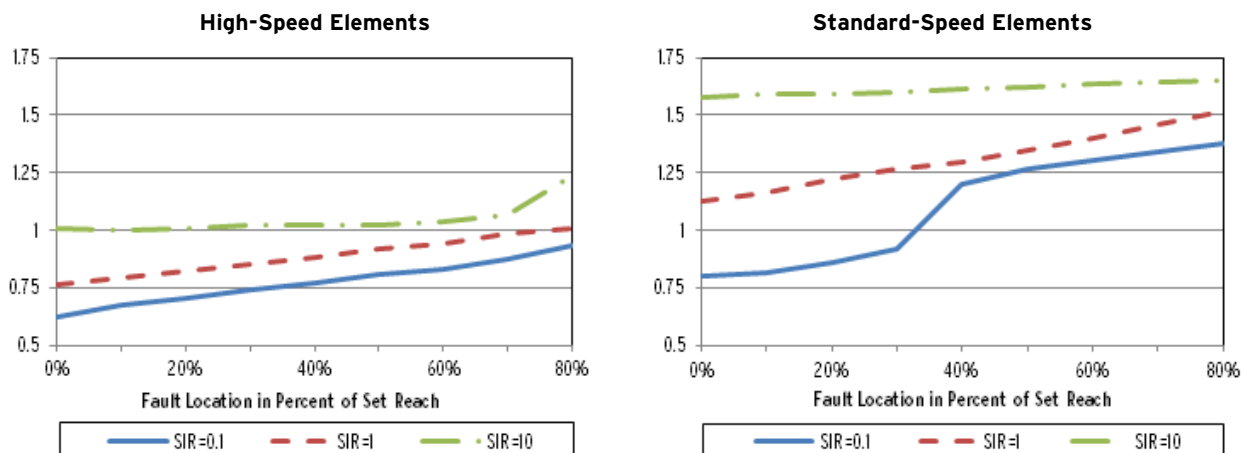
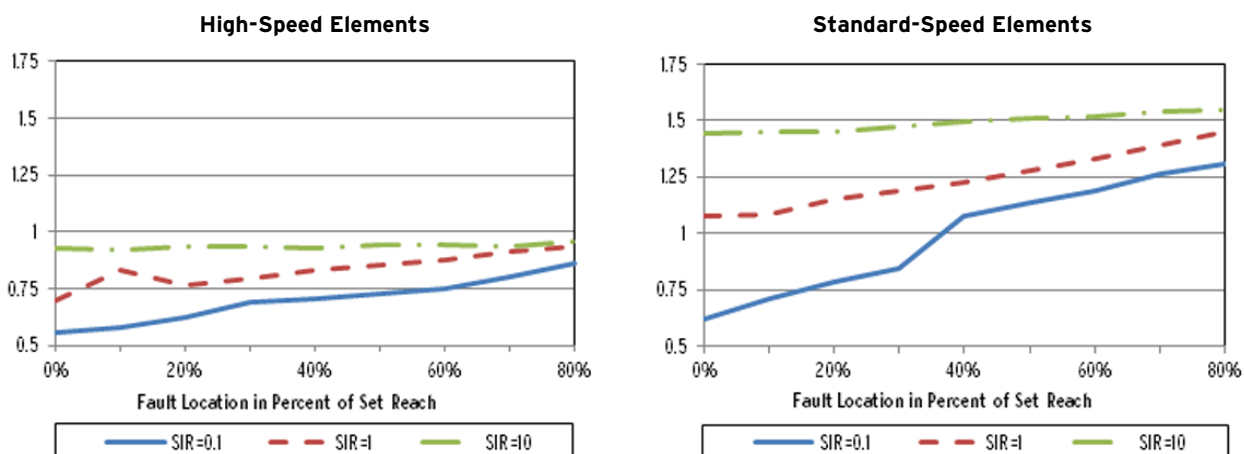

Figure 2 Single-Phase-to-Ground Faults
Figure 4 Three-Phase Faults
The high-speed, high interrupting current option (5) is required for applications that require sub-cycle trip performance. See *Figure 2* through *Figure 4*.
Figure 2 through Figure 4 show operating times for trip signals routed through optional Fast Hybrid (High-Speed, High-Current Interrupting) outputs and include output contact pickup time. For applications that use standard or high-current interrupting outputs for tripping, add output contact pickup time from Specifications on page 25.